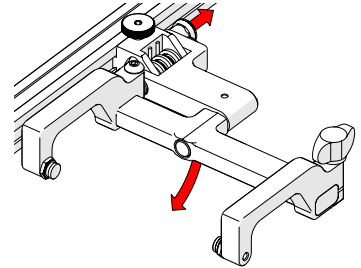

Fig. 116 - Lift and pull latch
3. Lift the probe holder slightly and pull the latch to release the probe holder's spring tension (Fig. 116).